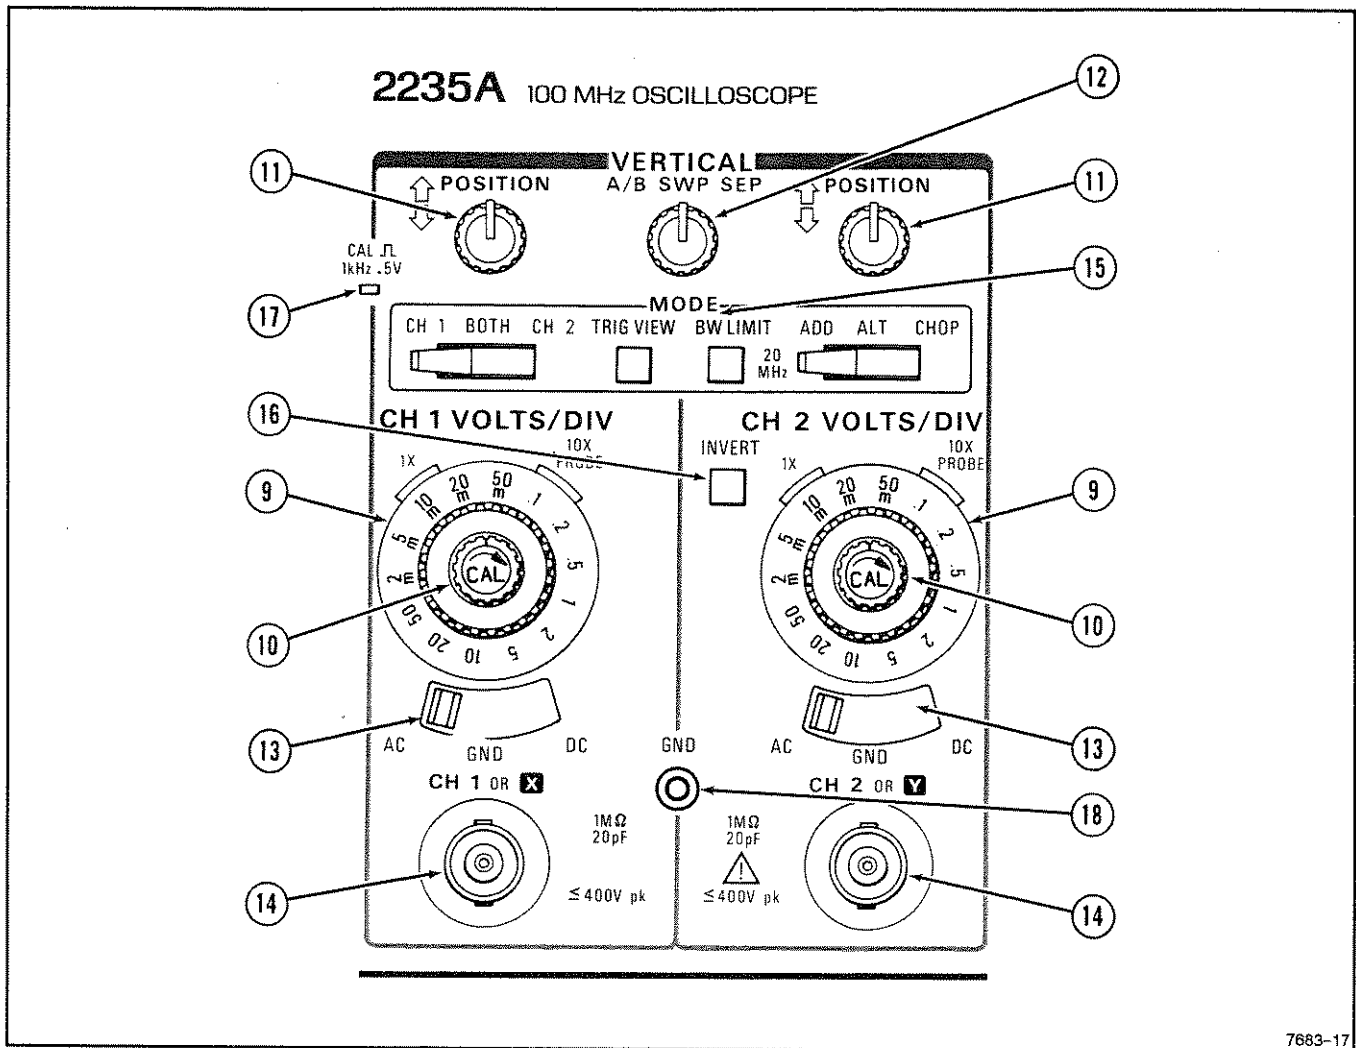

Figure 2-4. Vertical controls, connectors, and indicators.
Refer to Figure 2-4 for location of items 9 through 18.
- ⑨ **CH 1 VOLTS/DIV and CH 2 VOLTS/DIV Switches**—Used to select the vertical deflection factor in a 1-2-5 sequence. To obtain a calibrated deflection factor, the VOLTS/DIV Variable control must be in the calibrated (CAL) detent (fully clockwise).